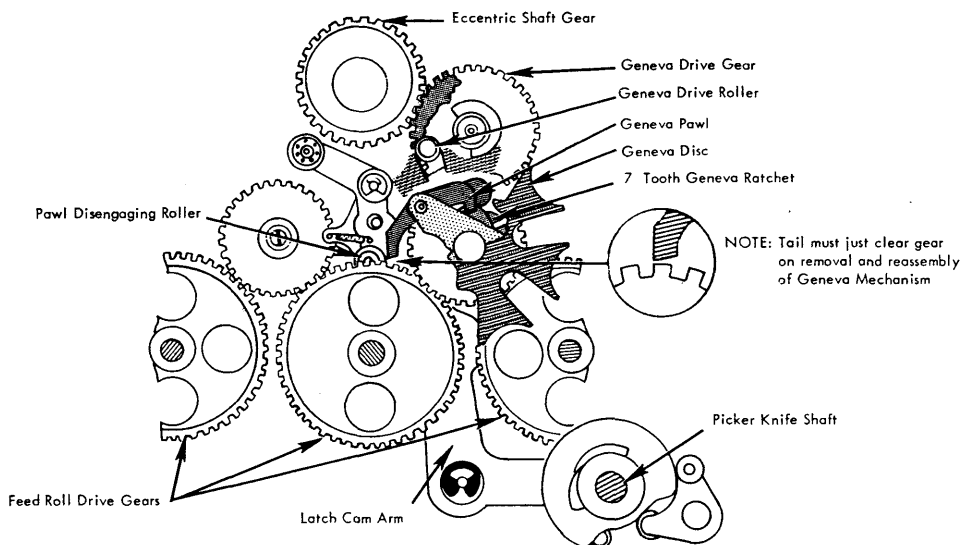

Figure 50. Geneva Removal
#### GENEVA MECHANISM (FIGURE 50)
3. Correct position for removal and reassembly is approximated in Figure 50.